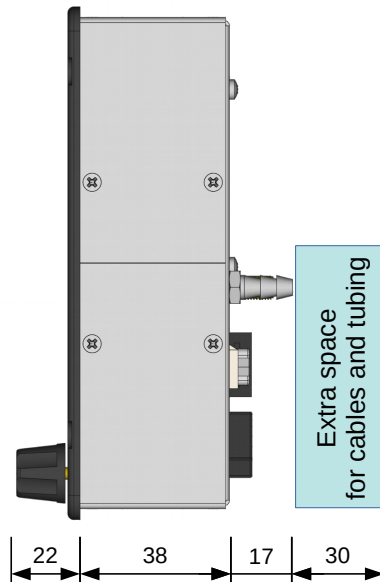
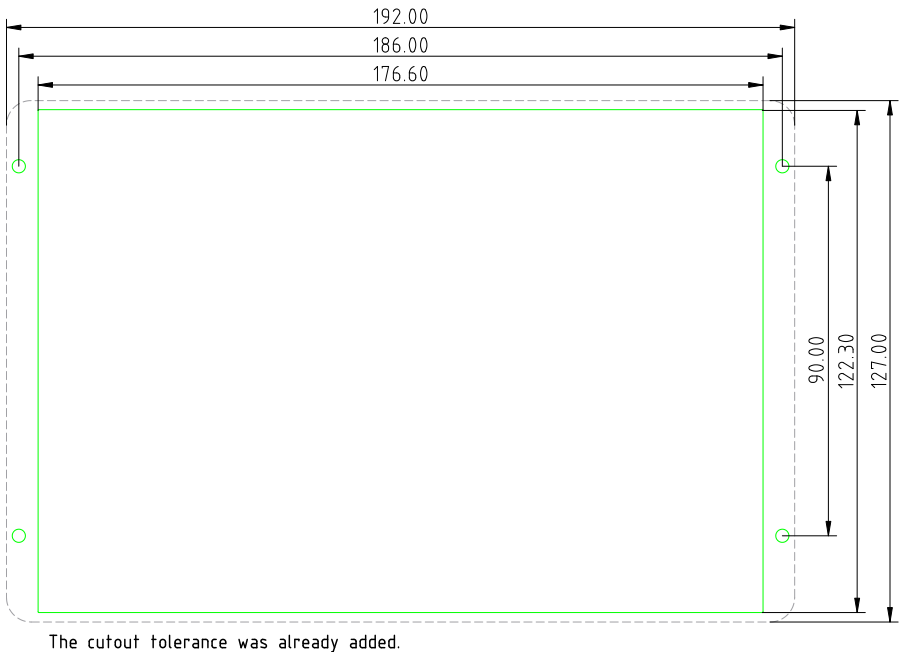

Figure 1: Aetos side view with dimensions.
Figure 4: Aetos cutout dimensions. The figure is not actual size!
- The display housing extends behind instrument panel and some extra space must also be allocated for the connectors, cables and tubes. See Figure 1 for more details.
The display main dimensions are shown on Figures 1 – 3 and Figure 4 shows the cutout.
Cut your instrument panel according to your Aetos display size using cut-out dimensions and cut-out templates. The cut-out drawing can be downloaded from our web page: www.kanardia.eu/support/manuals/, search for the **Aetos Cutout.pdf** or **Aetos Cutout.dxf**. Please note that the cutout tolerance was already added to the green cutout line. Figure 4 illustrates the cutout dimension.